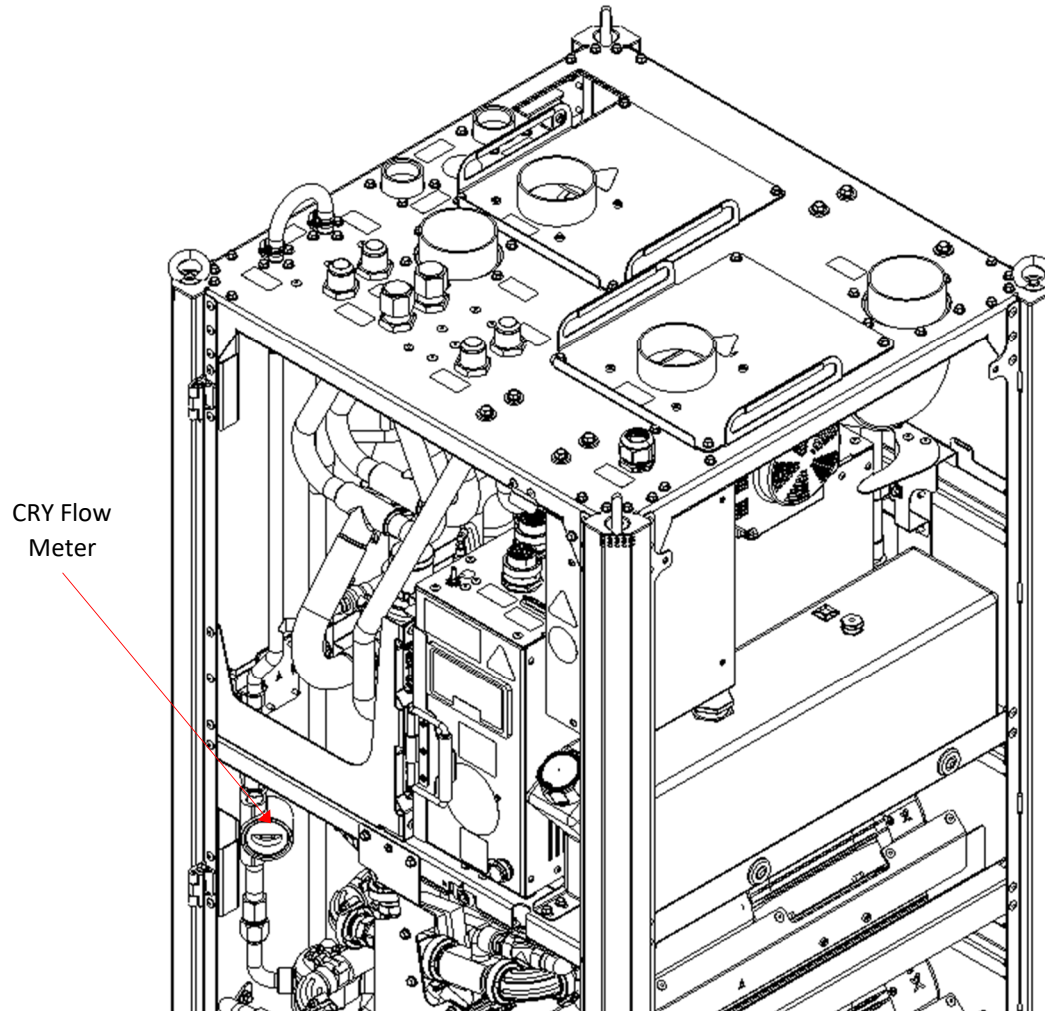

Figure 2-29: Cryogen Compressor Flow Meter
3. Locate the cryogen compressor flow meter (refer to Figure 2-29). Connect the previously routed Magnet Monitor flow meter cable to the 4-pin cable on the cryogen compressor flow meter.